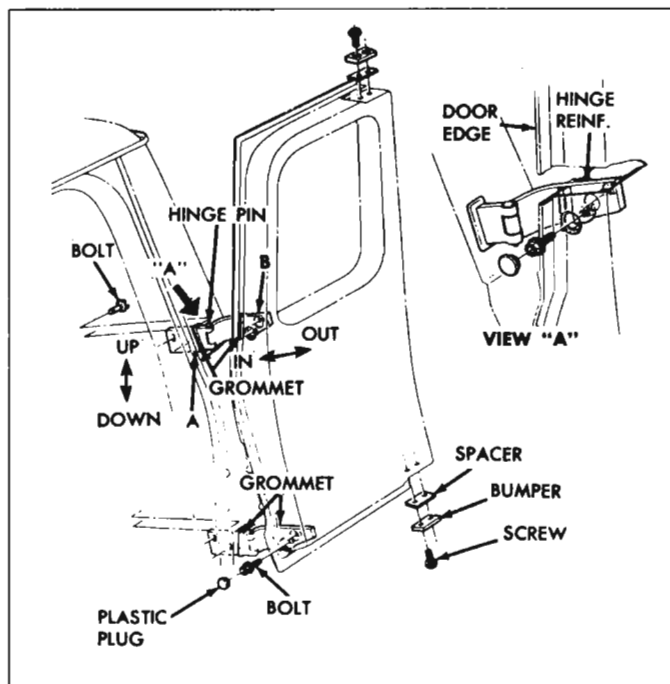

Fig. 10-84a—Rear Door Hinge Assembly
2. Remove plastic plugs from hinge assembly (fig. 10-84a) and remove the door to upper hinge retaining bolts.
3. With the aid of an assistant to support weight of door, then remove the door to lower hinge retaining bolts and slide door off of hinge and grommet (fig. 10-84a).
NOTE: Doors can be removed for other reasons than door replacement by removing hinge pins shown in Figure 10-84a.
4. If hinge is damaged, remove the hinge to pillar bolts, and remove the hinge (fig. 10-84a).
Door adjustment may be accomplished at two places; at the hinge straps to door panel and at the hinge cage to pillar (fig. 10-84a).
Before adjustment is made on any door, however, the striker plates should be loosened and adjusted after door is located. The door can be moved up and down at the hinge pillar ("A", fig. 10-84a) and the door can be moved in and out at the hinge to door panel ("B", fig. 10-84a).
Move door as required and tighten bolts. Install plastic plugs in all hinge bolt access holes (fig. 10-84a).